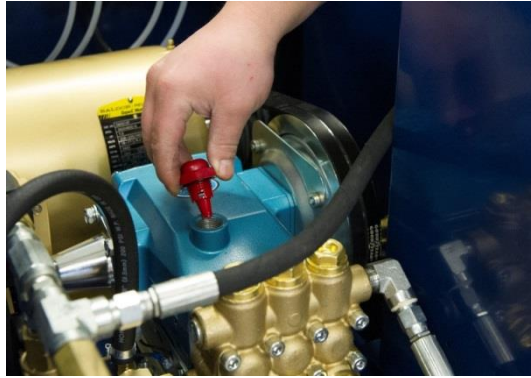

Figure 12: Pump oil check/fill plug
1. Drain the oil by 1) removing the plug located at the rear of the pump crankcase or 2) removing the fill plug (Figure 12) and suctioning the oil out with a suction gun that has a flexible tub.